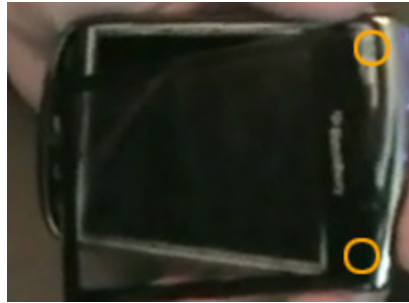

Figure 9
- You will now need to unscrew two T3 screws using a T3 Torx screwdriver from the locations shown in the figure 9.